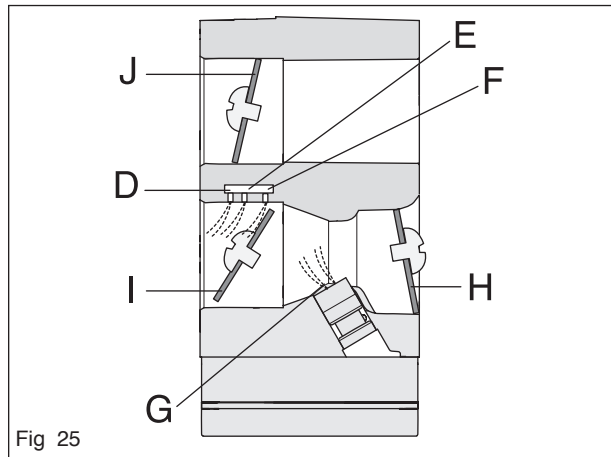

Fig 25
In the cold start mode (see figure) the choke valve (H) is fully closed. This increases the vacuum in the carburettor so that fuel is sucked more easily from all the diffuser jets (D, E and F). The throttle valve (I) is partly open. Extra air inlet (J) is closed (see figure 25).